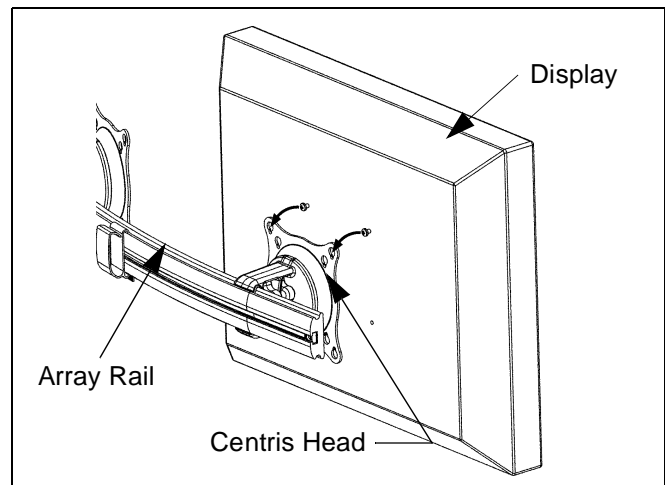
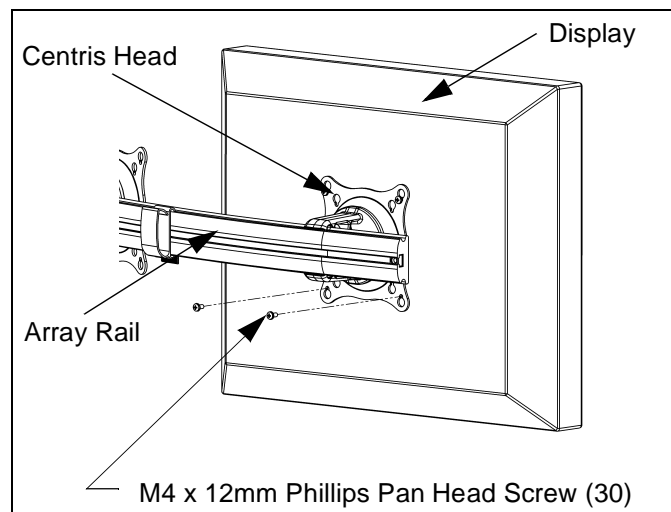

Figure 4: Hang Display
Figure 5: Secure Display to Centris Bracket
2. Hang display on Centris head. (See Figure 4)
3. Install bottom two M4 x 12mm Phillips pan head screws (30) through Centris head mounting holes and into lower mounting holes in display back.
4. Tighten four M4 x 12mm Phillips pan head screws (30). (See Figure 5)